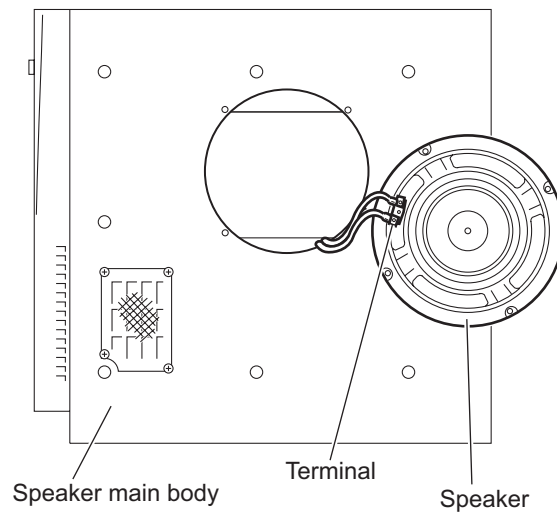

Fig.19
- (2) Take out the speaker from the speaker main body. (See Fig.19)
- (3) Disconnect the wires from the terminal of the speaker. (See Fig.19)